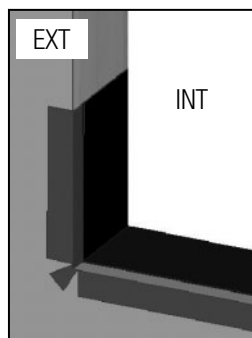

FIG. 7
- E) Flashing tape must cover the entire sill. If needed, apply an additional flashing piece over the first one (start from the exterior and work toward the interior). Maintain a minimum 1" overlap. (Fig. 7)